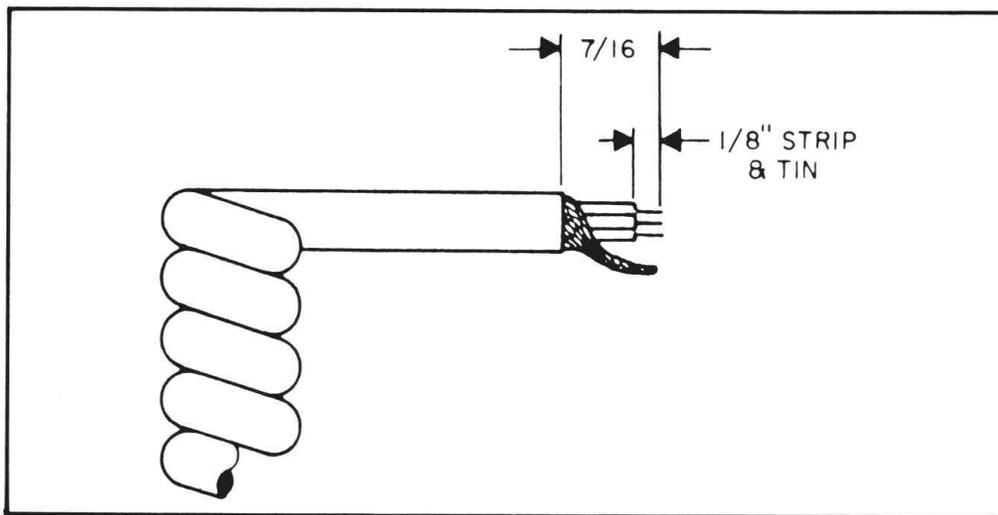

Fig. 1. Microphone cable preparation.
1. Cut leads so that they extend  $7/16''$  beyond the plastic insulating jacket of the microphone cable. (See Fig. 1.)